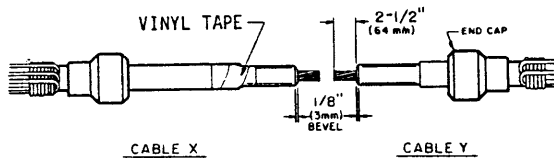

FIG. 2
B. INSTALLATION PROCEDURES (FIGURES 2,3 and 4)